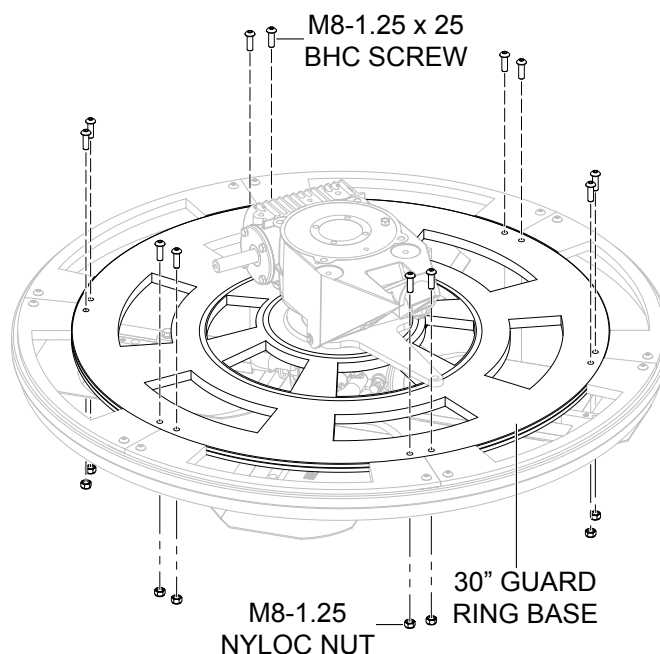

**Figure 34. Trowel Blade Removal**
1. Remove the 8" x 14" trowel blades (4) from the spider assembly (Figure 34) using a socket wrench to remove the 5/16-18 x 1-1/4" HHFS screws (4) and 5/16-18 x 1-1/2" HHFS screws (4).